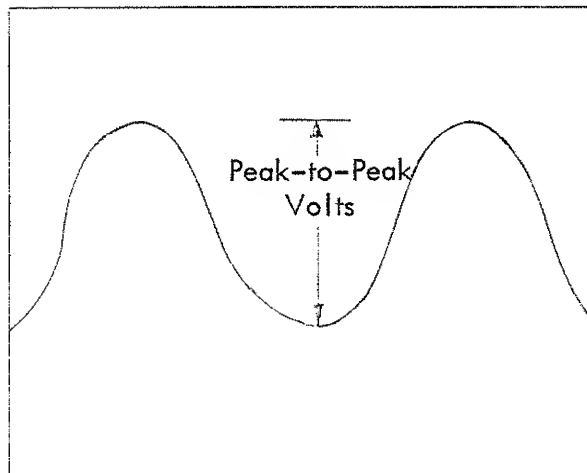

Figure 3-9 Peak Voltage Meas
The peak-to-peak voltage of a waveform such as the sine wave shown in figure 3-9 shall be measured using channel A. The peak memory mode searches out the most negative peak between the markers as the 0% level, and the most positive peak as the 100% level. The voltage measurement gives the voltage difference between these two levels.
a. Assume the waveform in figure 3-9, channel A.